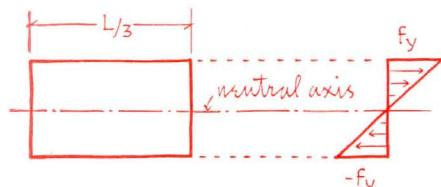

Figure 10—limit of elastic-stress distribution across beam section under load.
for an ideal I section of flange area $A/2$ and negligible web area. The stress (2) is derived under the assumption that plane sections remain plane and that the stress is linearly distributed across the section (Figure 10).